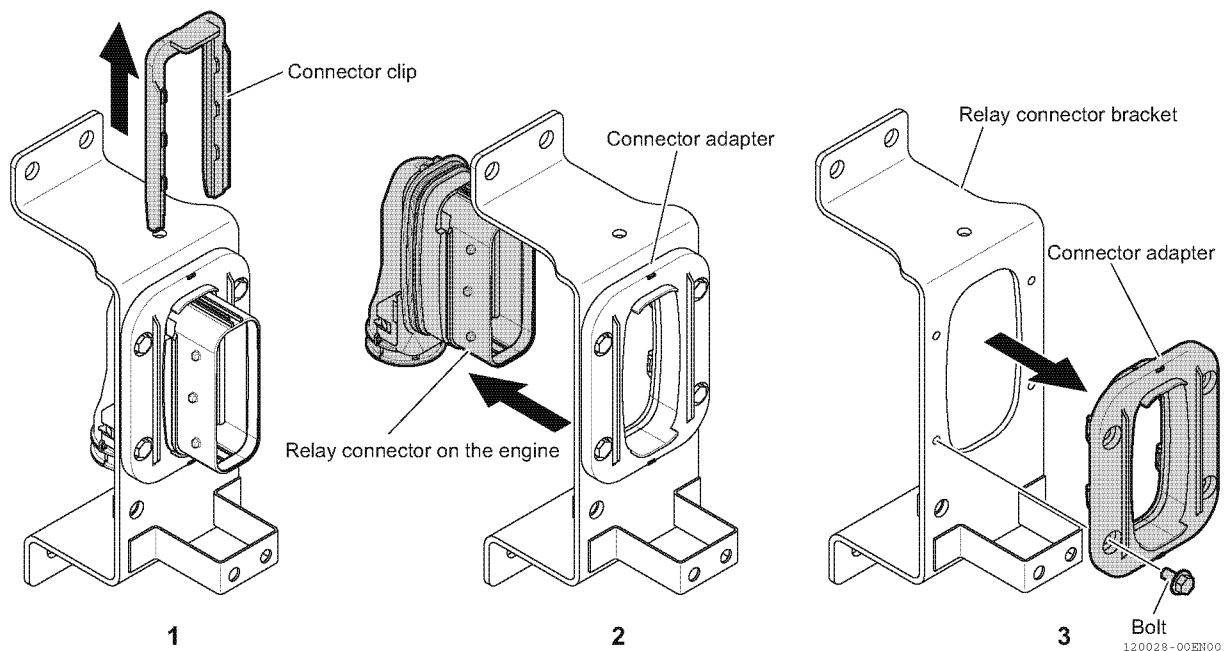

Fig.70-18
6. Fig.70-18 shows the procedure for removing the relay connector of the removed wire harness assembly from the connector bracket.